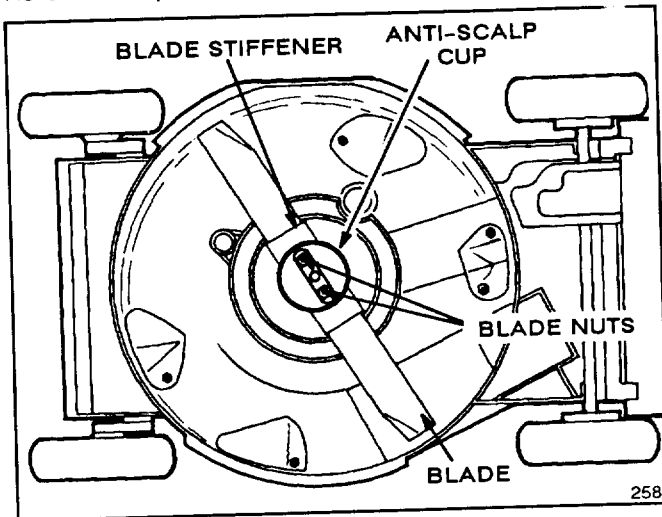

Figure 15
1. Stop engine and pull wire off spark plug (Fig. 15).
anti-scalp cup, blade stiffener, and blade (Fig. 15).